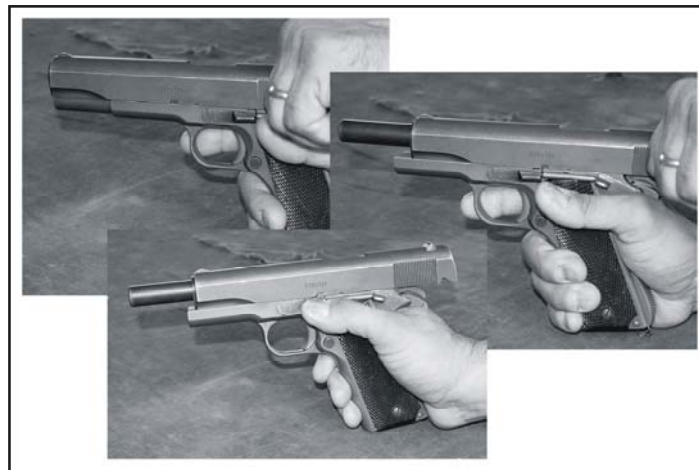

Figure 2. Lock Slide
- d. Pull the slide all the way to the rear. Lock it in this position by pushing up on the slide stop (Figure 2).